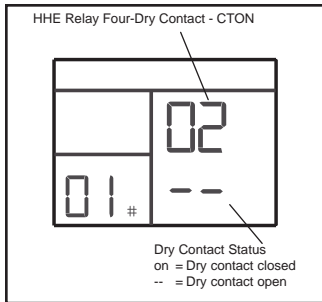

**Figure 9. Indoor Unit Coil Temperature**
- Indoor unit evaporator coil temperature (T2 and T2b) (Figure 9)